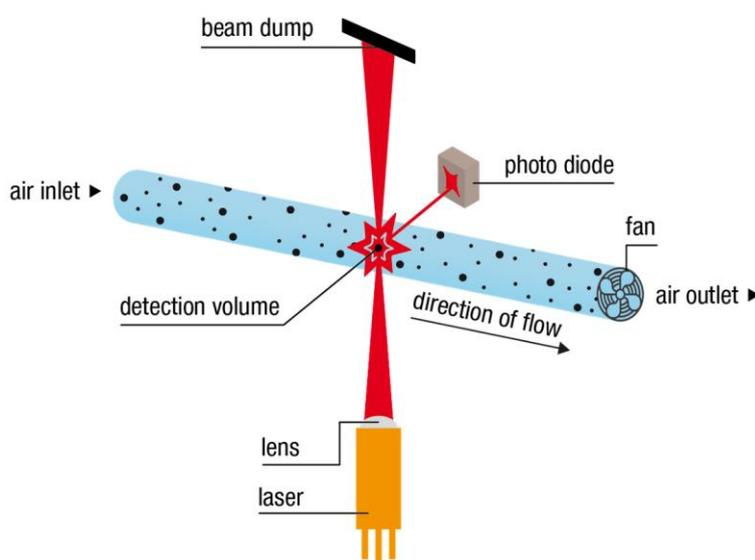

Figure 1 Measurement principle of Sensirion PM sensors.
Sensirion Particulate Matter (PM) sensors are optical particle counters (OPCs) based on laser scattering. All OPCs guide ambient, suspended particles to a measurement cell inside the device. The measurement cell consists of a light source (e.g., a laser) and a photodetector. Due to the interaction of particles and light, part of the incoming light is scattered towards the nearby photodetector (see Figure 1).